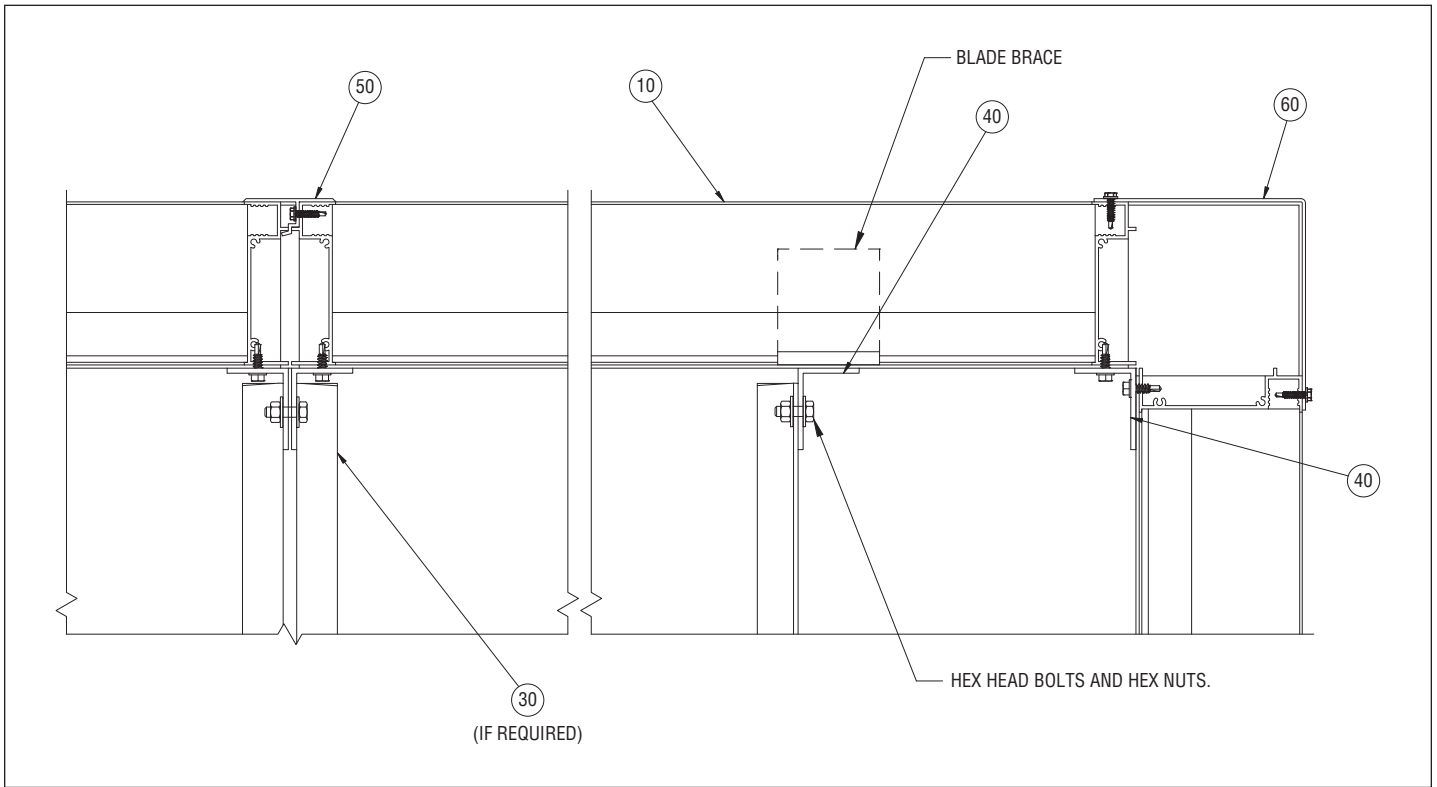

Fig. 3.0B
8. On 1600PHB boxed corner penthouses, install corner cover angle to adjacent louver jamb frames with screws provided. **See Fig. 3.0B.**